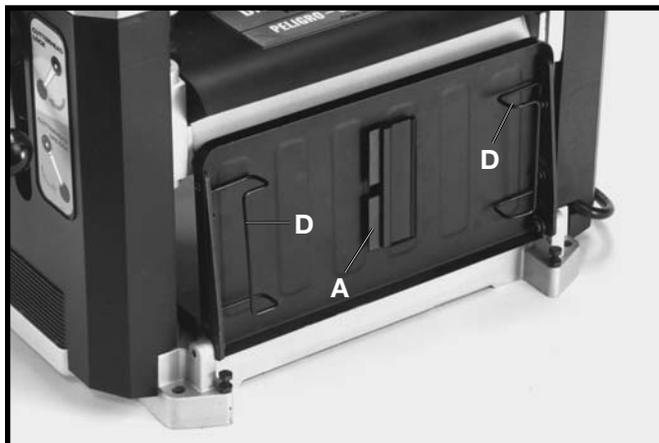

Fig. 21
2. Figure 21 illustrates the knife transfer tool (A) stored underneath the outfeed table extension.
1. Wire hangers (D) Fig. 21, are provided underneath the outfeed table extension to store the planer power cord when the machine is not in use.